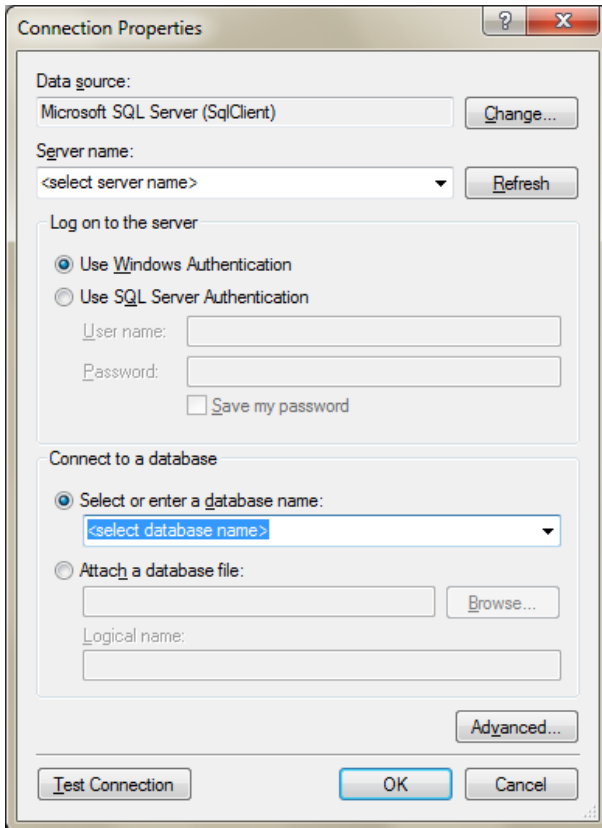

Fig. 4-11 Database Connection
2. Click the drop down arrow from the **Select or enter a database name** section and select or enter the appropriate database connection to be used, as illustrated in Fig. 4-11.